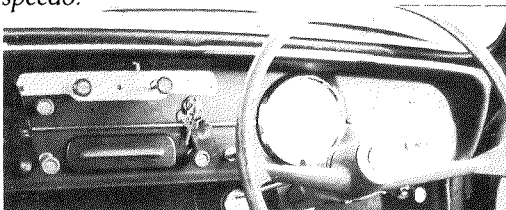
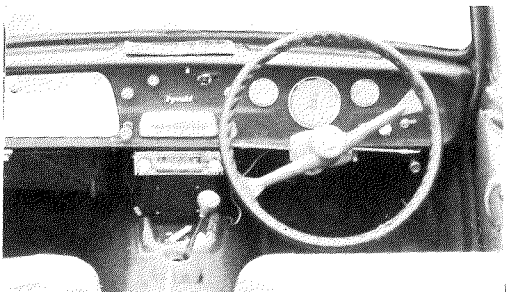

Fig. 16 - Dashboard with metal finger panel.
Fig. 17 - 948 Convertible with 3 gauges, locking cubby hole cover and "chip basket"
**Dashboard:** Made of branboard and finished in 'Porterfleck' on 1959 cars. A bright metal finger panel was added a later 1960 (Fig. 16), probably to strengthen the choke area. The cubby shelf surround and ashtray were white; a lockable door was fitted to the cubby shelf on twin-carb. cars. The 16" diameter steering wheel indicator cowl and horn push were grey.
**Speedometer:** White (see Fig. 16); twin-carb. cars with white fuel and temperature gauge (Fig. 17).